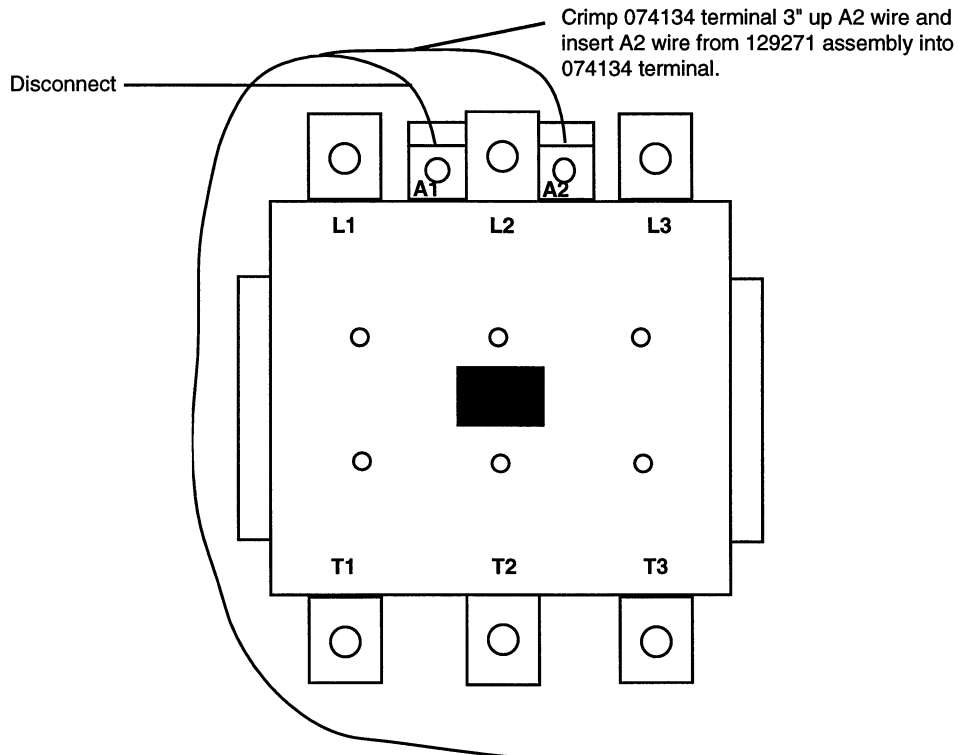

Figure 5 Main Contactor CON1
6. Disconnect control wire A1 from main contactor CON1. Fig. 5.